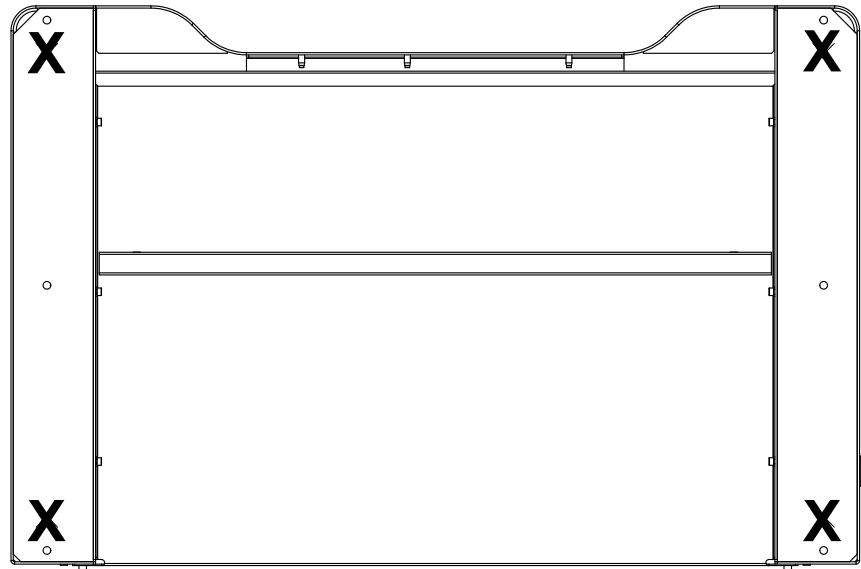

Figure 25. Underside of frame showing location of frame feet
7. Locate the frame feet that have been removed in order to bolt the frame to the shipping skid. Remove the tubular brackets at the rear of the frame base and install the frame feet at the locations indicated in Figure 25 on page 82.